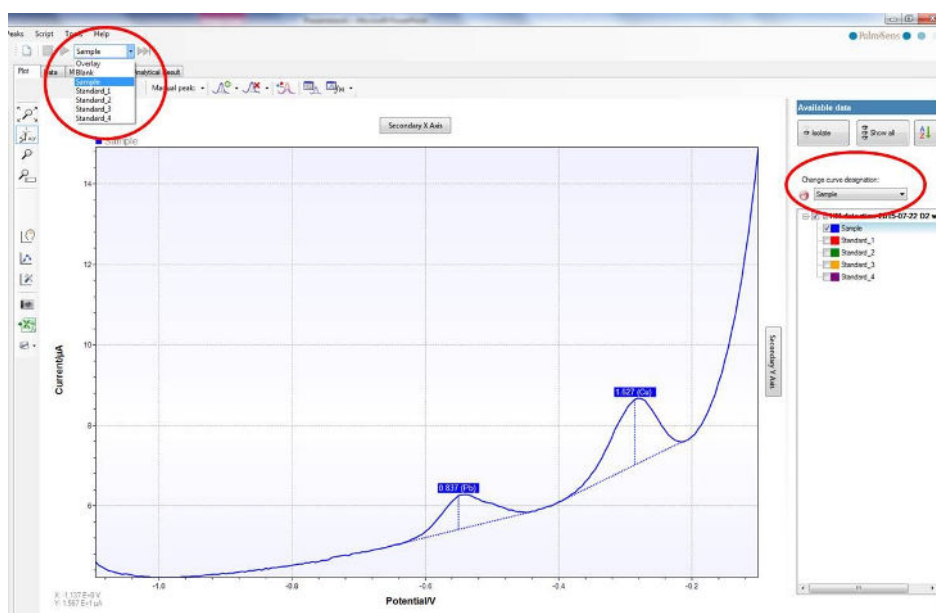

Figure 4.4: The first scan of the sample and the selection of a curve designation.
5. Add an amount of metal that roughly resembles the amount of metal you expect in your sample. Your addition has to be as specified in the analysis table. This can be done by adjusting your table or added volume. In this experiment  $50 \mu\text{L}$  from each standard solution should suffice. Perform the measurement, select for this curve *Standard\_1* from the dropdown box (see Figure 4.4). Repeat scans by selecting *Overlay* from the dropdown box and pressing run again until you get a stable peak height ( $<10 \%$  peak height difference to the former scan). Assign the curve you want to keep as *Standard\_1* as *Standard\_1*.